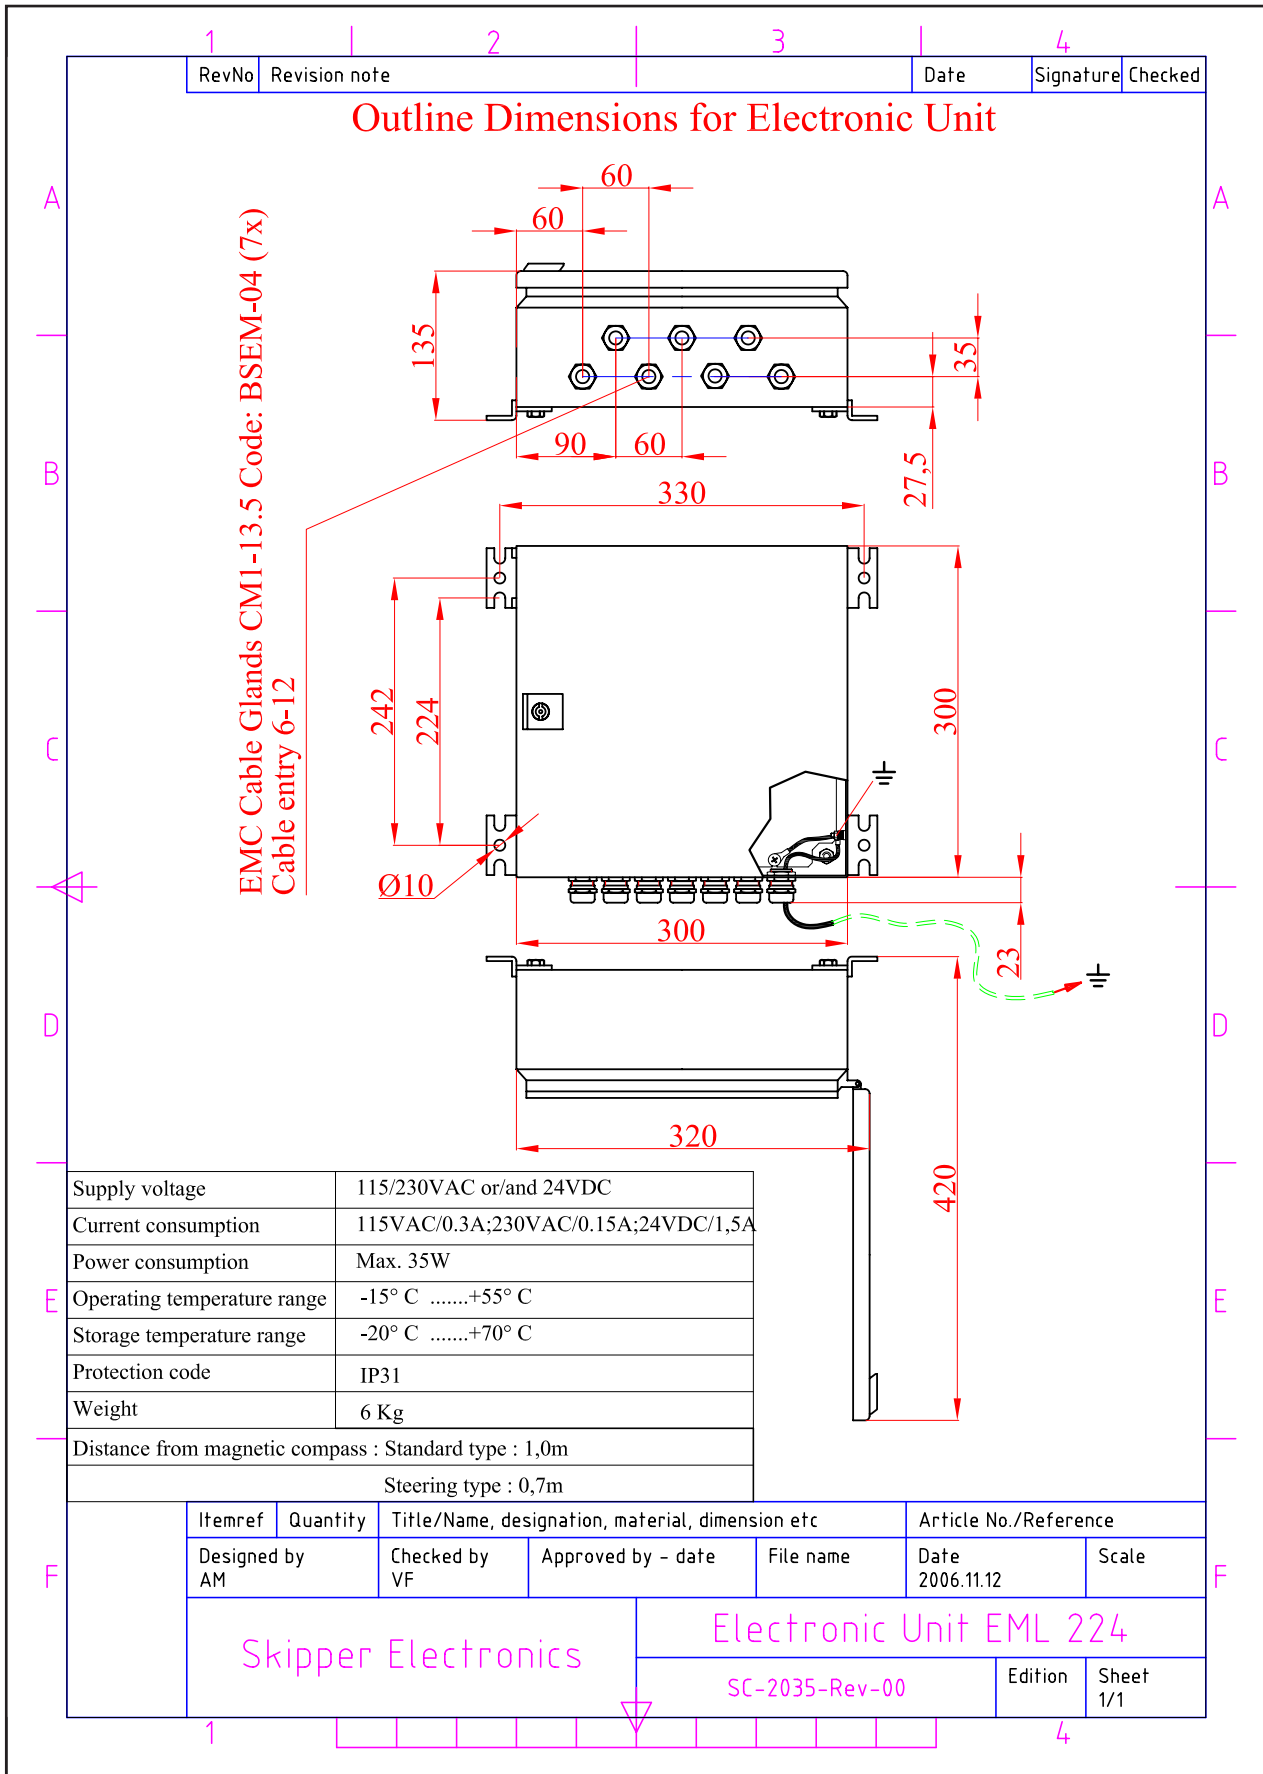

Fig. 11.4 Outline dimensions Electronic Unit
- Fig. 11.4 Outline dimensions electronic unit